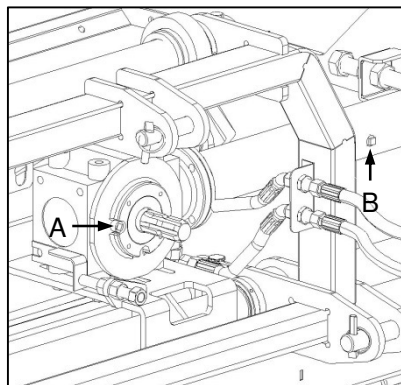

Fig. 6
- ✔ The gearbox (Fig. 6-A) and extension housing (Fig. 6-B) are equipped with filling ports. Check oil levels in both locations.
- ✔ Die ratkas (Fig. 6-A) en verlengomhulsel (Fig. 6-B) beskik oor olieulpunte. Olievlakke moet by albei punte nagegaan word.